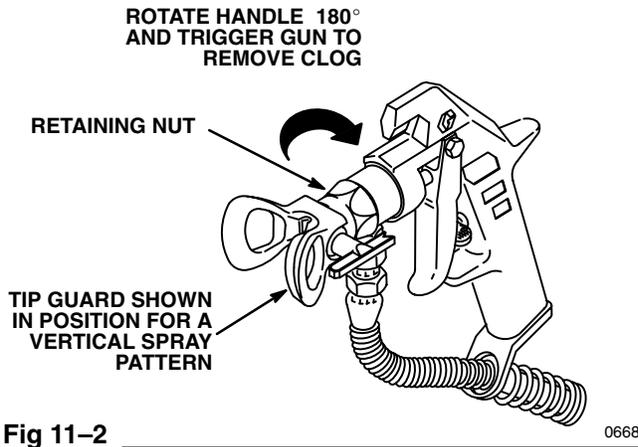

Fig 11-2
- Test the spray pattern. To adjust the direction of the spray pattern, engage the trigger safety latch and loosen the retaining nut. Position the tip guard horizontally for a horizontal pattern or vertically for a vertical pattern. Then tighten the retaining nut. See Fig 11-2.
- If using the RAC IV Spray Tip Kit, rotate the RAC IV handle 180°. See Fig 11-2. Disengage the trigger safety latch. Trigger the gun into a grounded waste container. Engage the trigger safety latch again. Return the handle to the original position.